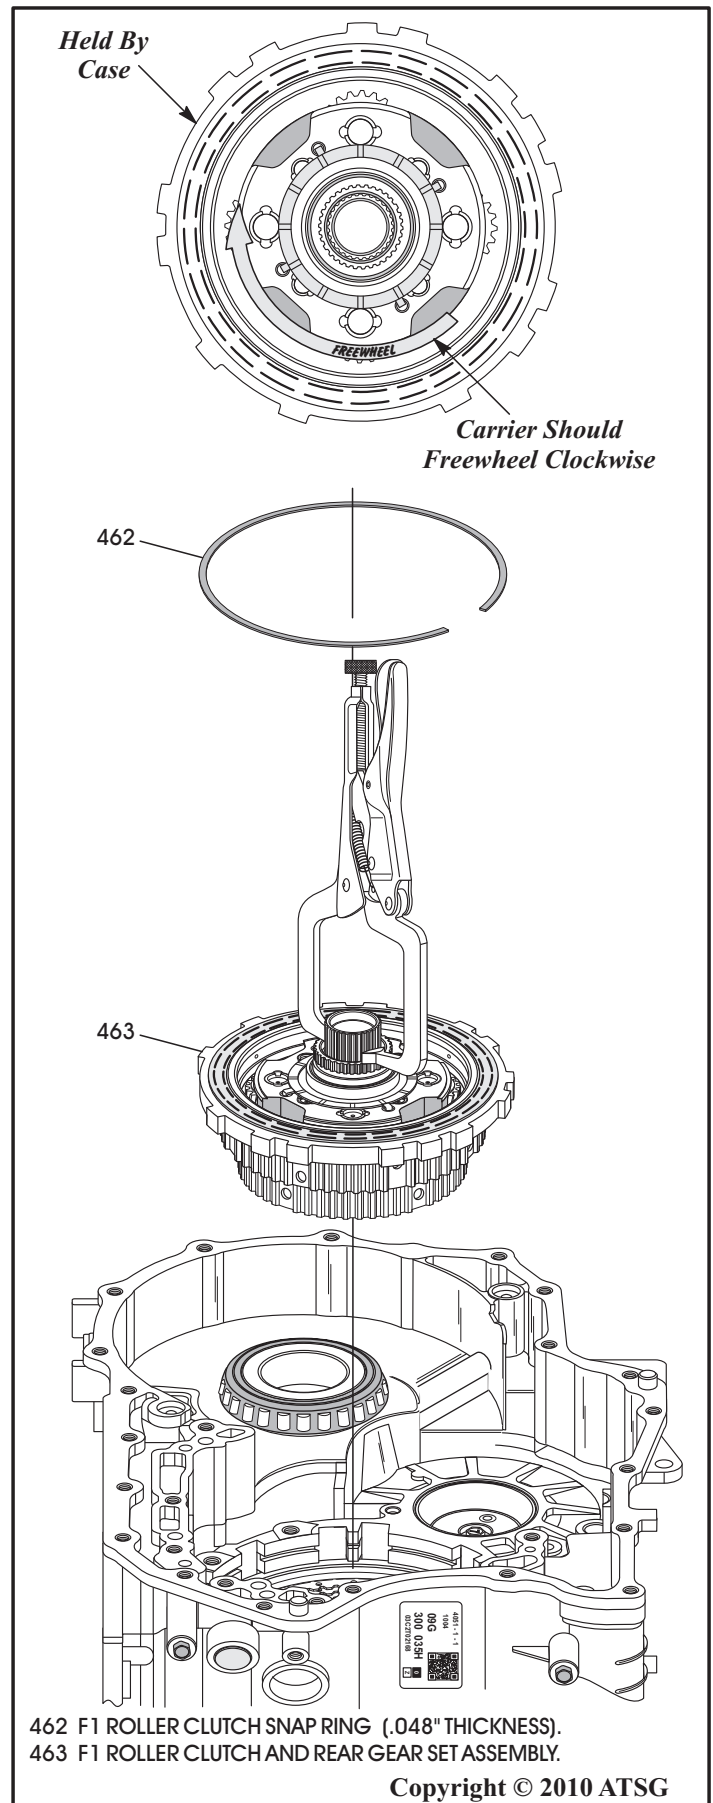

Figure 171
9. Install the pre-assembled F1 roller clutch and rear planetary gear set, as shown in Figure 171, by rotating back and forth until fully seated.
10. Once the assembly is fully seated, remove the vice-grips and install F1 roller clutch snap ring, as shown in Figure 171, with snap ring opening toward the transfer gear bearing race.
CAUTION: *After installation, with your fingers in the planetary carrier pockets, the carrier should freewheel in a clockwise direction and lock in a counter-clockwise direction (See Figure 171).*